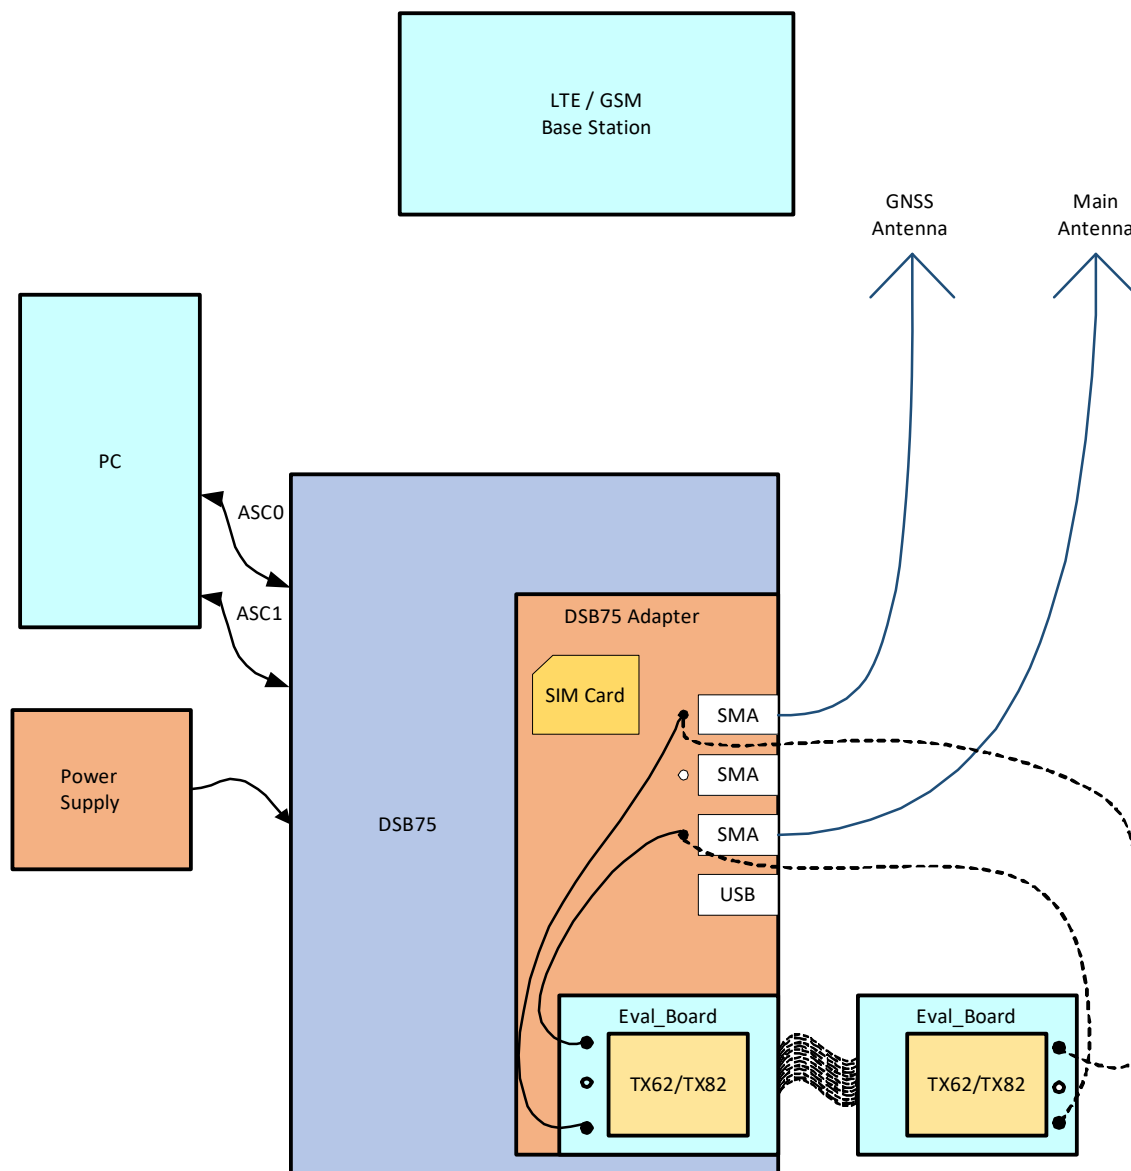

Figure 75: Reference equipment for type approval
1. For RF performance tests a mini-SMT/U.FL to SMA adapter with attached 6dB coaxial attenuator is chosen to connect the evaluation module directly to the LTE/GSM/GNSS test equipment instead of employing the SMA antenna connectors on the TX62/TX82-DSB75 adapter as shown in Figure 75. The following products are recommended: